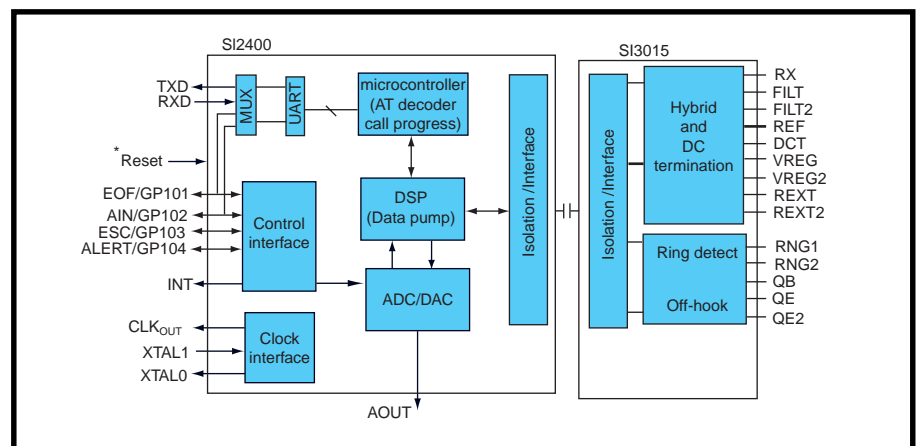

Figure 1—The Si2400 modem chipset handles communications across the 3-kV isolation barrier between the modem and the interface chips.
What does negative feedback look like mathematically? Taking a look at Figure 1, notice the amplifier with a large open-loop gain (A). There is a feedback network with a transfer function (H) and a summer that provides the negative feedback by subtracting the output of block H from V_{in} . Equation 1, representing Figure 1, is our starting point.